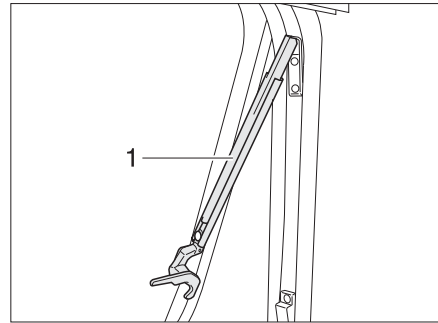

Fig. 42 Hinged window with automatic hinges, open
- Open the hinged window to the desired latched position. The automatic hinge (Fig. 42,1) locks in place automatically.